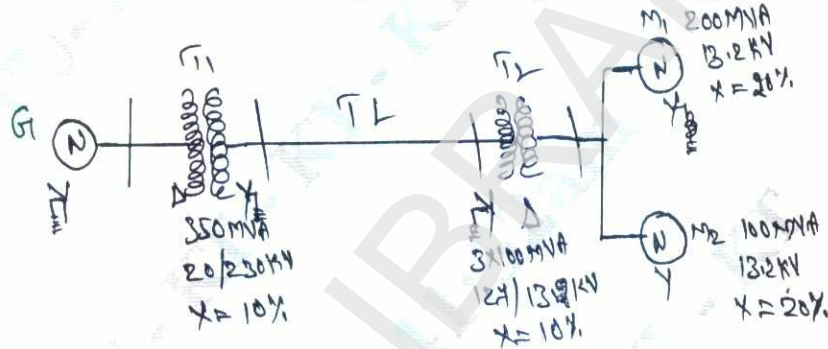

Fig.Q1(b)
- b. A 300 MVA, 20 KV, 3-phase generator has subtransient reactance of 20%. The generator supplies two synchronous motors through a 64 KVA transmission line having transformers at both ends as shown in Fig.Q1(b). T₁ is a 3-phase transformer and T₂ is composed of 3-single phase transformers of rating 100 MVA each, 127/13.2 KV, 10% reactance, series reactance of transmission line is 0.5 ohm/km. Draw the reactance diagram with all reactances marked in per unit. Select generator rating on base values.